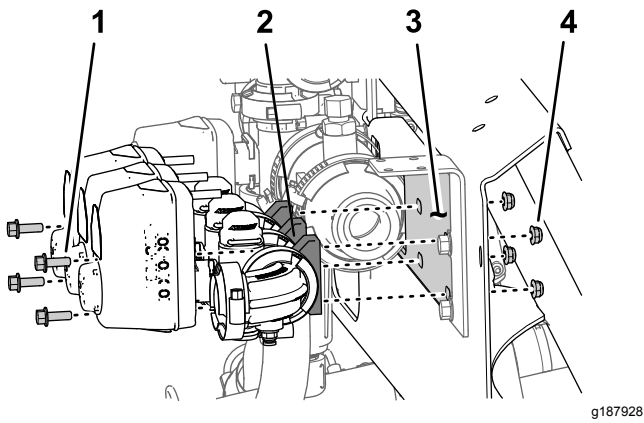

Figure 52
1. Remove the 2 flange-head bolts (1/4 x 3/4 inch) and 2 locknuts (1/4 inch) that secure the right boom-section valve to the manifold mount (Figure 52).
- Remove the 2 flange-head bolts (1/4 x 3/4 inch) and 2 locknuts (1/4 inch) that secure the left boom-section valve to the manifold mount (Figure 52).
- Remove the boom-section valves from the manifold mount and set aside the valves (Figure 52).